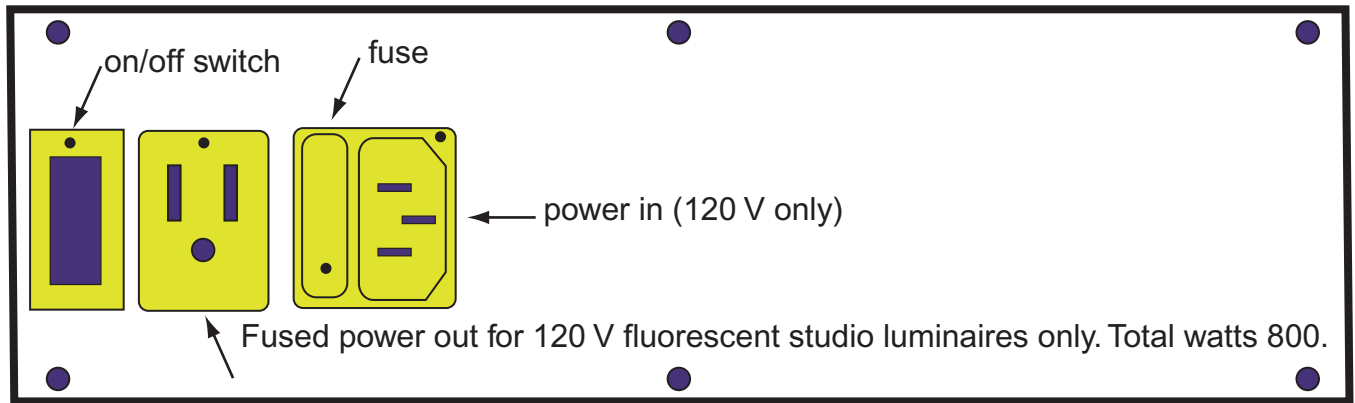

fig 2
The 1SL255 is made of welded steel and powder coated in non-reflective black. Accessories are made of aircraft alloy aluminum. Standard luminaires are equipped with detachable 10' long power cords. Each 120 volt cord is equipped with Edison 3 prong connectors. Other voltage models are shipped without plug unless specified. A fused power in and out receptacle is supplied for 120 volt models. Adjacent fixtures may be powered with this connector so long as the load does not exceed 8 amps. (fig. 2) Fuse is fast acting type 217, 10 amp, 250 V. The switch controls the power to the one fixture. Power is indicated when the switch is lit.
The control panel is shown in fig. 2. This panel is the same in appearance to the voltage dimming model. A label containing the serial number indicating voltage and dimming capacity can be found on this plate.
7. Control panel including switch and power connections. See fig. 2.
When the lamps are installed, it is advisable to bench test each fixture. Plug the the power cord in one luminaire and turn the switch on the control panel ( fig 2 ). The switch should be lighted if the ballast has power. The lamps should start. Full intensity and correct color will be attained in about 5 to10 minutes. Next, the hanging means should be mounted on the yoke (fig 5 ) with a 1/2" bolt supplied with the "C" clamp and or stem. If vertical mounting is desired, the hanger or stem should be attached on one end of the yoke brace. If daisy chain power is desired, up to a total string wattage up to 800 watts, use of the "power out" receptacle. in figure (2).